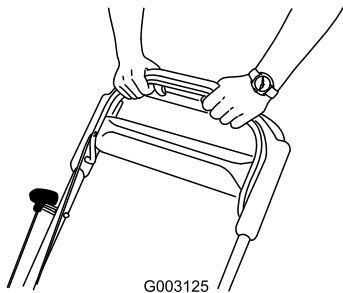

Figure 21
3. Hold the blade-control bar against the handle (Figure 21).